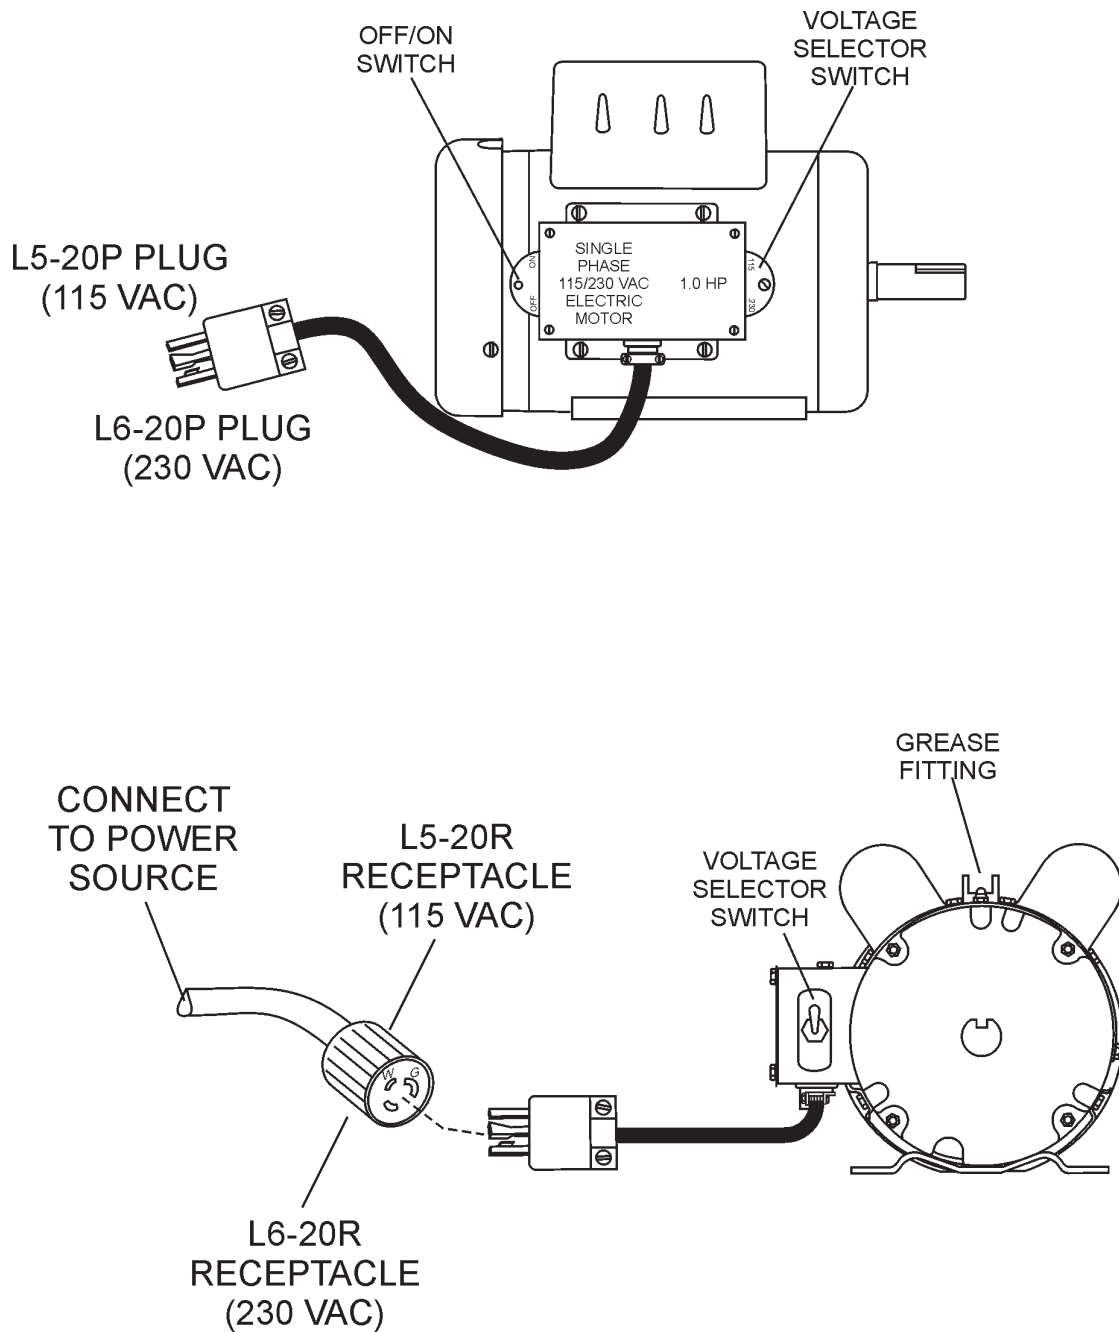

Figure 5. Single Phase Electric Motor with 18 inch Pigtail Cable
See Figure 5 for the location of any control referenced in this manual.
- Set the electric motor's **ON/OFF** switch (Figure 5) to the **ON** position.